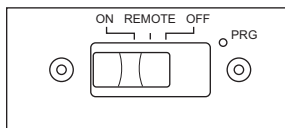

Figure 46 - Remote Selector Switch in ON Position
10. Wait one minute and switch selector switch to the ON position to light burners (see Figure 46). When using in the ON position (without remote) burners will light on high. There is no adjustment to the flames without using remote.